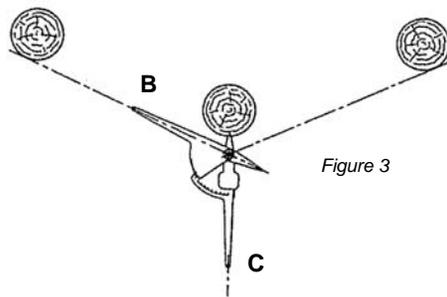

Figure 3
- b. Without disturbing arm B swing arm C away from the pole until the bisector index (located just beyond the 40 foot mark on the pull scale) points to the pull reading (obtained in (a) above) as read on the corner bisector scale on arm B (figure 3).